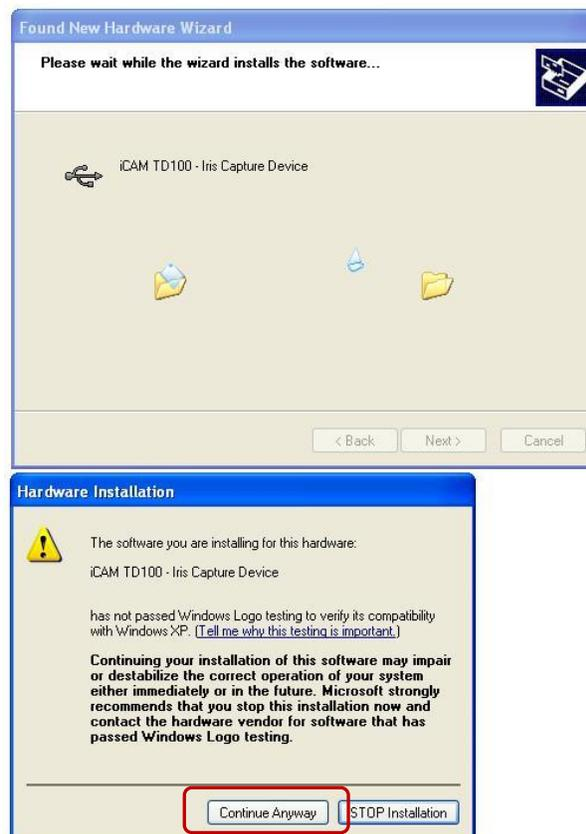

Fig. 16
10. Select > “Continue Anyway” if an attention box indicating that the “iCAM TD100 – Iris Capture Device has not passed windows Logo testing to verify...” to continue installing driver files as shown in Figure 16.